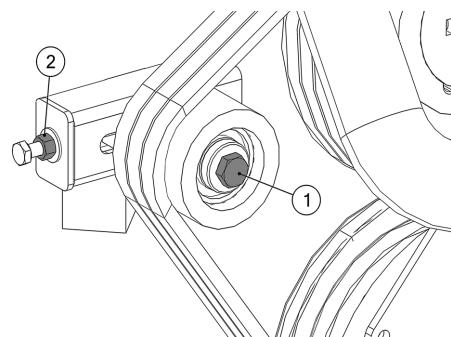

Figure 23 - Tensioner Pulley Assembly
1. Use a 19 mm spanner to loosen the bolt in the centre of the tensioner pulley until the pulley is able to slide with minimal wobble (Figure 23, Item 1).
2. Turn the nut on the end of the tensioner pulley slider until the correct belt tension is achieved (Figure 23, Item 2). (Refer to Section 6.12 "V-Belt Tensioning Procedure" on page 55.)